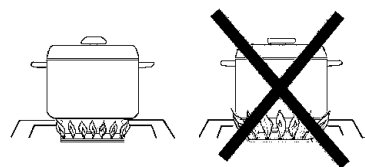

FIG. 08
- For safety reasons the flame must never extend beyond the bottom of the cooking utensil. Never allow flames to curl up the side of the pan (see Fig. 08).